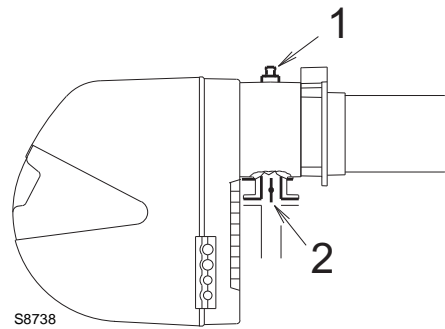

Fig. 21
Gas pressure measured at test point 1)(Fig. 21), with:
Pressure loss at gas butterfly valve 2)(Fig. 21) with maximum opening: 90°.
- subtract the pressure in combustion chamber from the gas pressure measured at test point 1) (Fig. 21).
Gas pressure at test point 1)(Fig. 21) = 9.5 mbar
To calculate the required gas pressure at test point 1) (Fig. 21), set the maximum modulating output required from the burner operation:
- read, on the right (column 1), the pressure at the test point 1) (Fig. 21).
pressure required at test point 1)(Fig. 21).